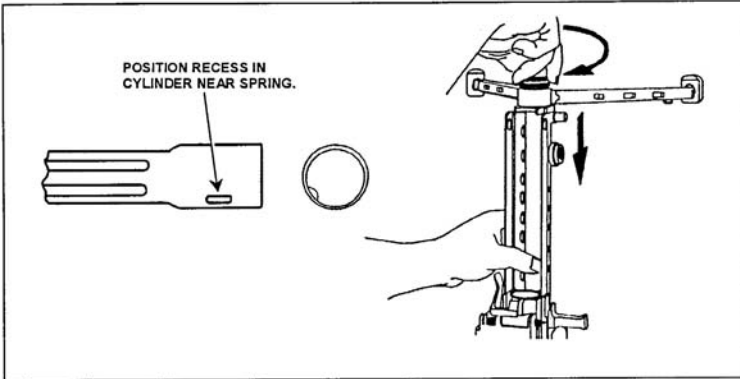

Figure 071-312-4025-22. Replacement of the bipod and gas cylinder
- (1)** Place the bipod on the receiver.
- (2)** Push the gas cylinder through the bipod yoke into the receiver.
- (3)** Push the cylinder to the rear. Counter the pressure of the locking spring and guide the end of the cylinder into the receiver, with your other hand applying downward pressure. When you have fully inserted the gas cylinder, rotate it until the spring clicks into place in the recess at the rear of the cylinder (figure 071-312-4025-22).